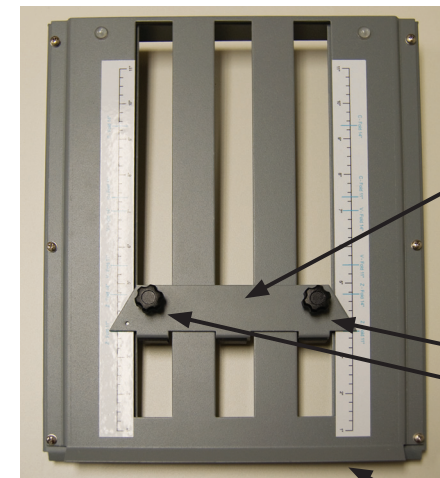

Figure 3a
1. Adjust fold plates to desired fold for length of paper (see fold plate adjustment on page 3). To do this, loosen the two thumbscrews (figure 3a & b) on each fold plate. Align center bar (figure 3a & b) so the marks on each side match up. For “V” folds remove the lower fold plate, turn around 180° and reinstall.